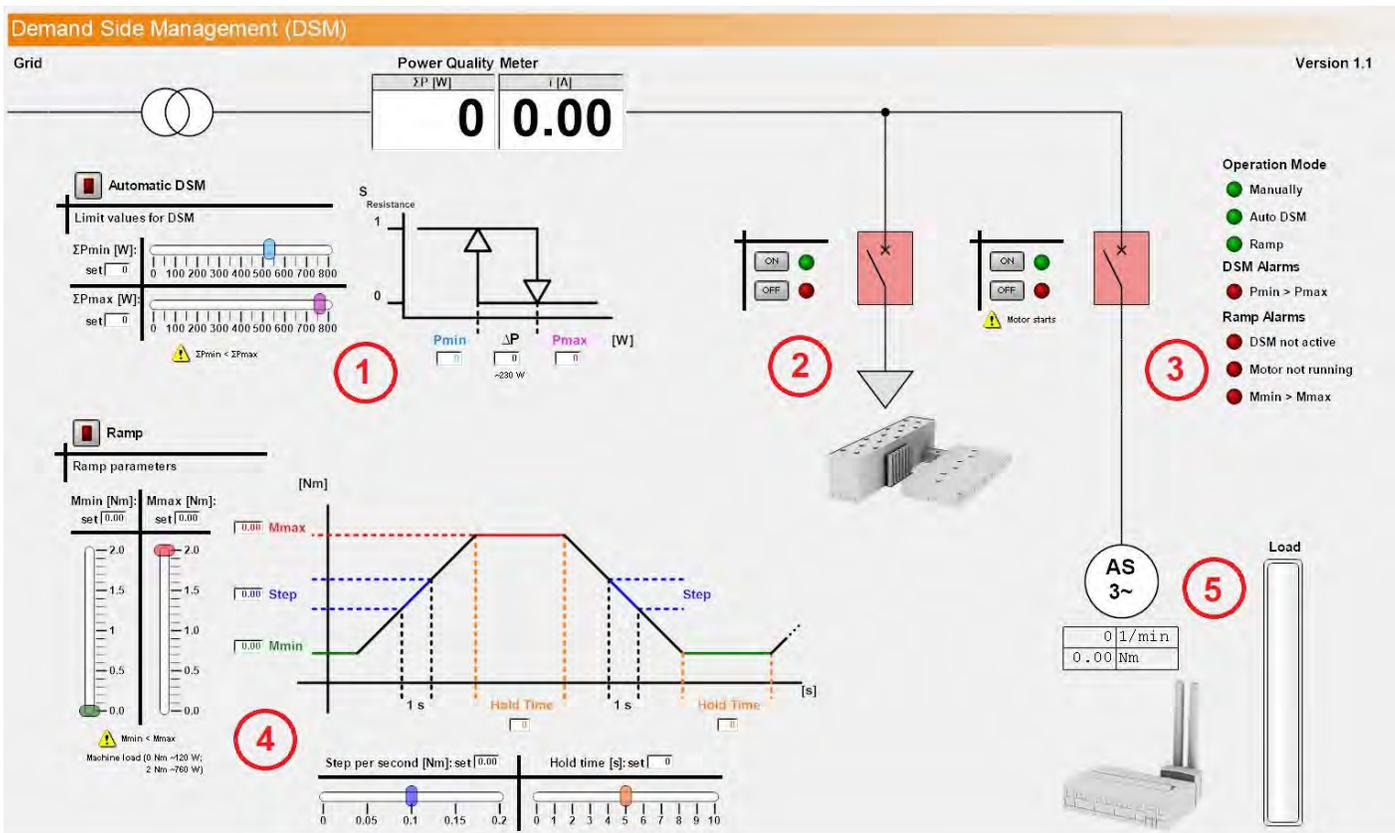

Figure 10:
5. Open the "SCADA Viewer" program directly from Labsoft  (top right) and select the file you have just saved. The SCADA user interface will look as Figure 10.